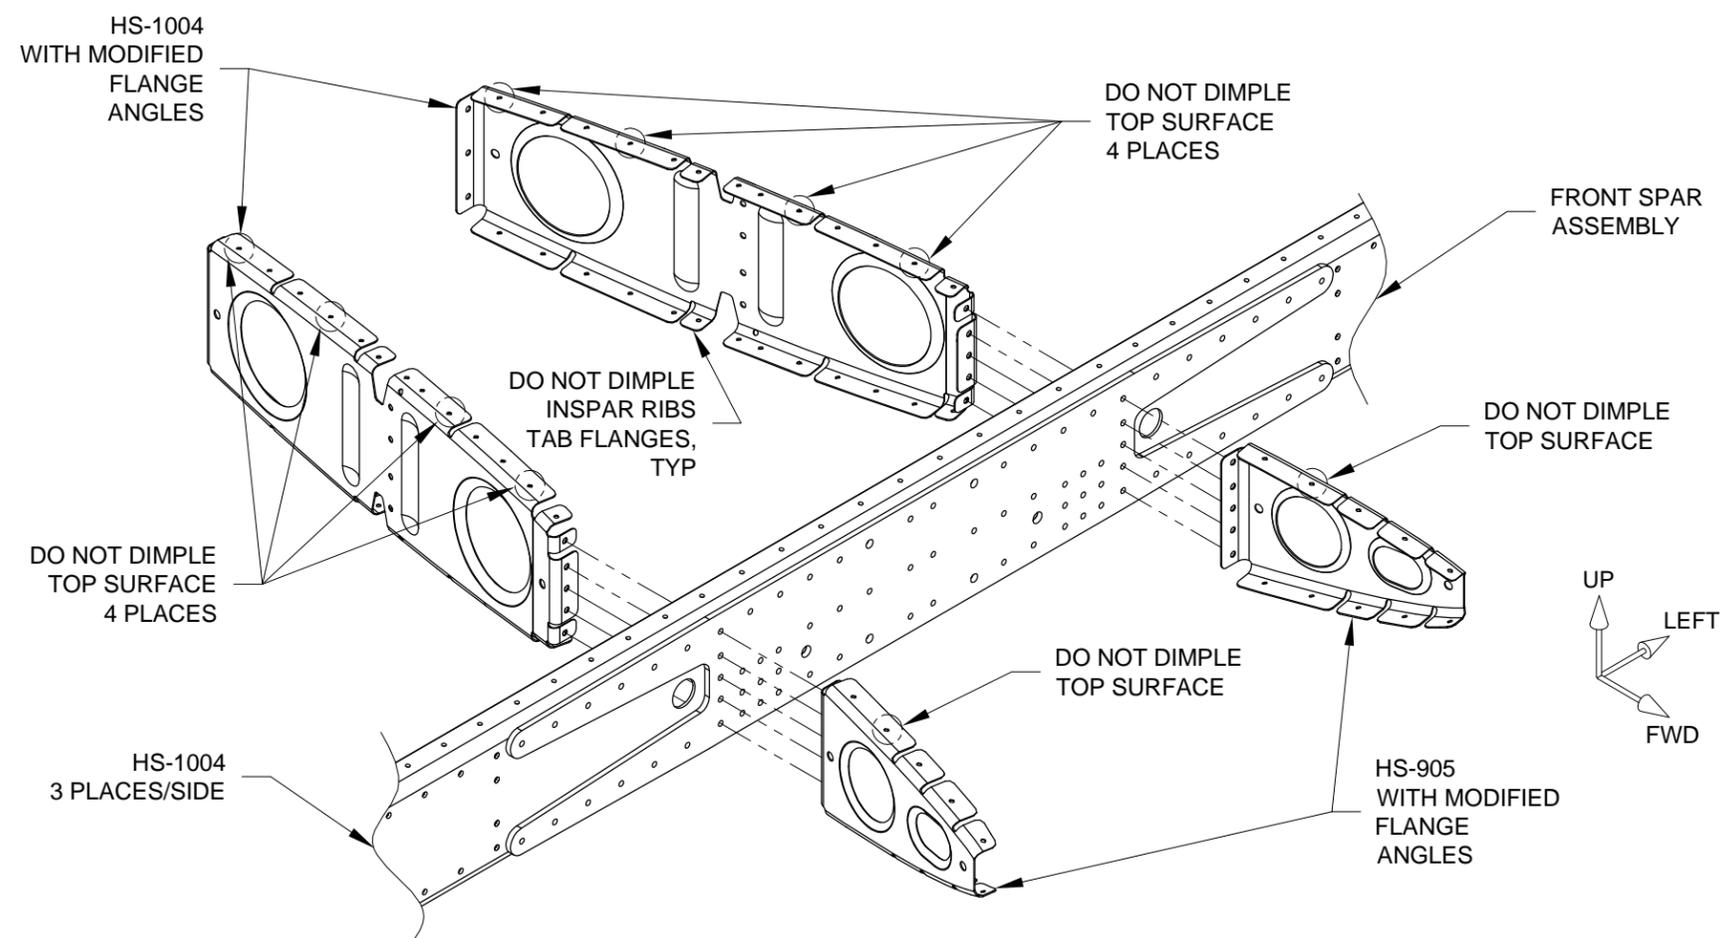

FIGURE 1: INSPAR RIBS AND FRONT SPAR ASSEMBLY
Step 5: Dimple all the #40 holes on the modified and non-modified HS-905 Nose Ribs, HS-904 Inspar Ribs and HS-1004 Inboard Inspar Rib flanges for AN426AD3 skin attach rivets. See Figure 1.